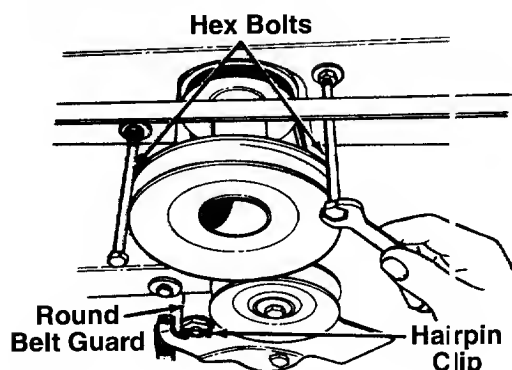

FIGURE 4.
1. Working beneath the tractor, remove the round belt guard from the idler by removing the hairpin clip. See figure 4. Remove the two hex bolts which act as belt keepers by the engine pulley.
9. Replace the round belt guard by the idler pulley (hex side down). Replace the hex bolts (belt keepers) by the engine pulley. Refer to figure 4.